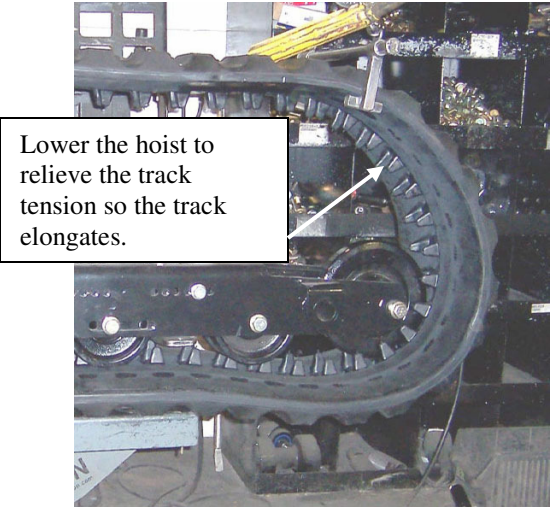

Fig. 2
7. Lower the front of the track so it elongates. Place a pry bar between the front idler and the inside of the track and pry outwards so the idler pops out of the guide teeth. **(Fig. 2)**